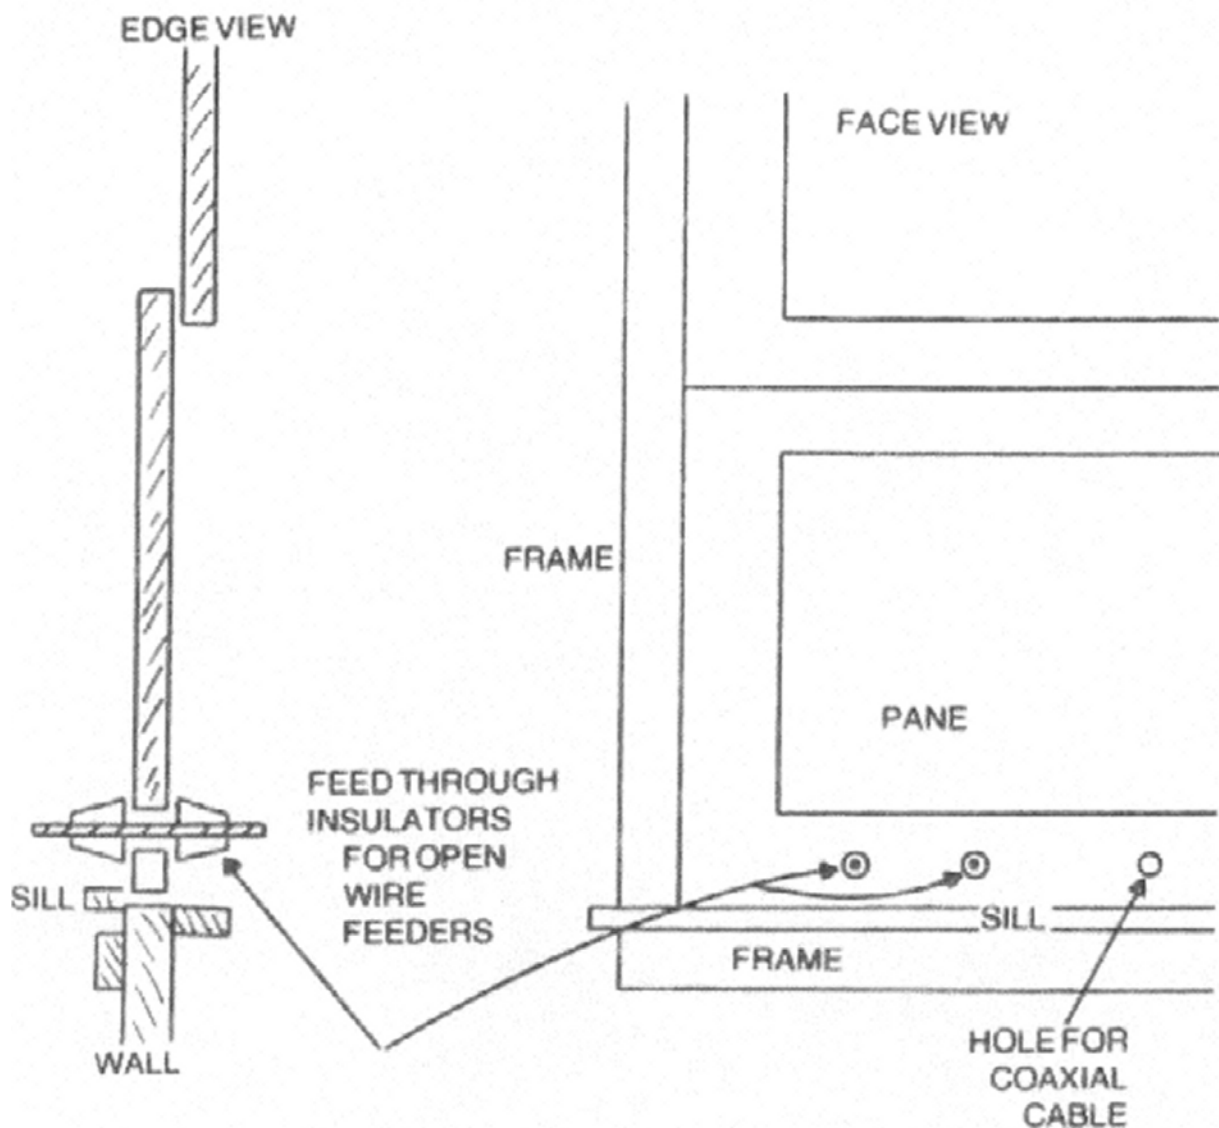
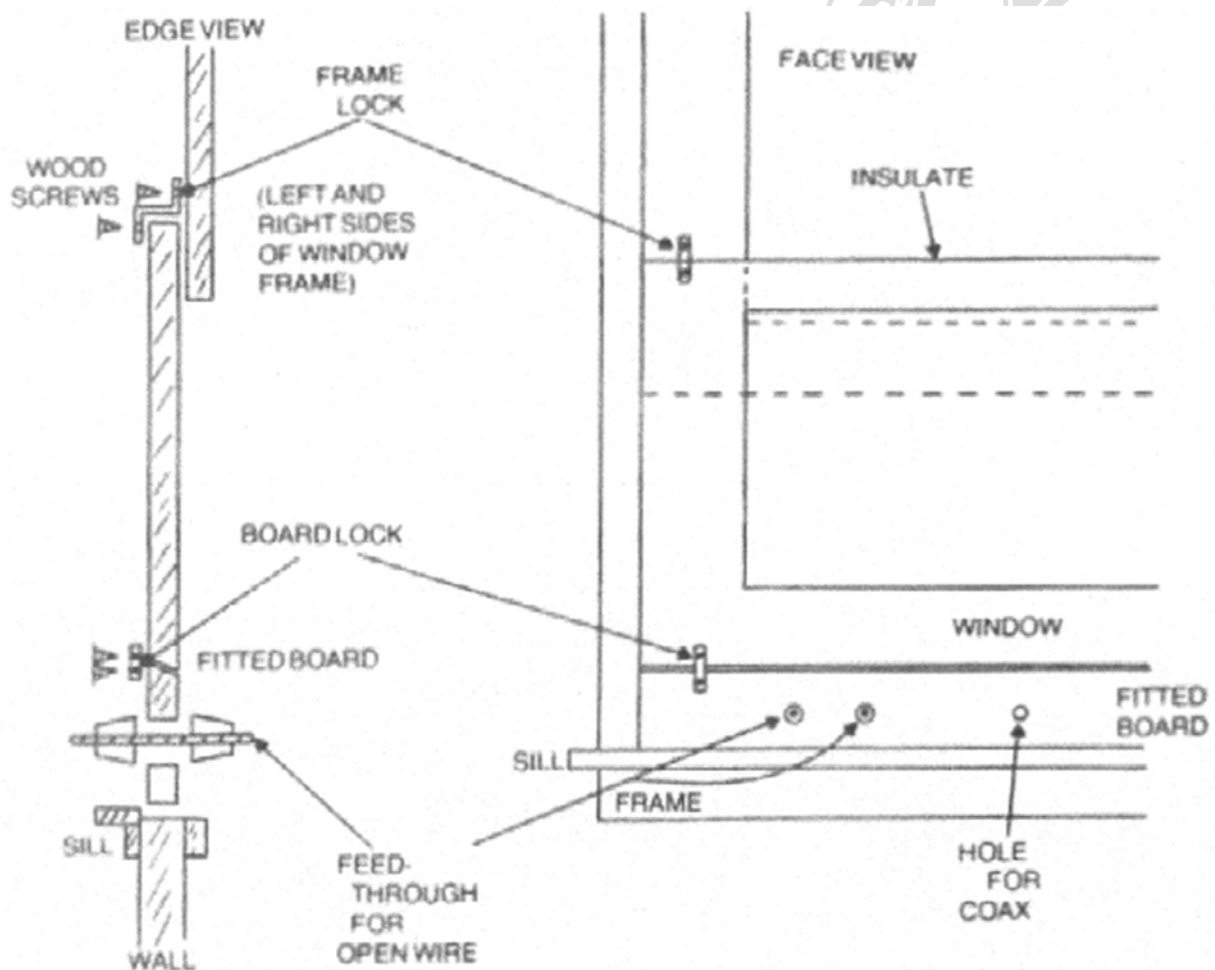

Fig. 8: Running cables through window frames
Fig. 9: Running cables through a fitted board in the window frame
- *The window:* A window which faces in a direction convenient both to the connection point for the antenna and to a good ground location, if it needs to be out of doors, presents the fewest problems. Although some hams run cables through the window frame itself, as shown in Figure 8, the system in Figure 9 is preferable—it leaves no permanent marks and scars on the house. Using a board or plate in the window sill does require that you take precautions to preserve the security of the shack and the house; therefore, do not omit the locking bracket between the two parts of the window. In addition, be sure to use plenty of insulation around the edges to conserve house heat and cooling.